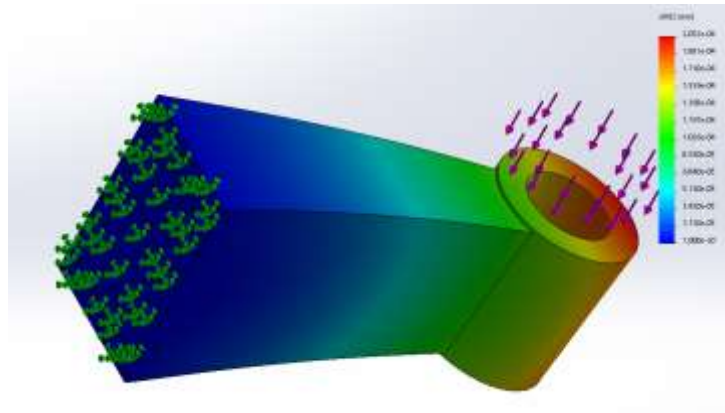

Figure 6
6. When the study is done running, double-click on *Displacement1 (-Res disp-)*. From here you can see the max displacement of the part (in Figure 6, this value is $2.052e-04$ mm).
7. Take a similar screenshot of your model (as shown in Figure 6) and include it in your HW10 submission with a brief caption.
12. Take another screen shot similar to Figure 6 of your model and include it in your HW10 submission with a brief caption.